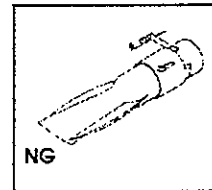

Fig. 19
- Loosen the retaining screw on the burner ring. If setting for LP-Propane gas operation, slide the ring towards the burner to open the burner hole completely. In the factory setting for Natural Gas operation, the ring must be located in a place that maintains a gap of 4 mm. (See Figure 19)